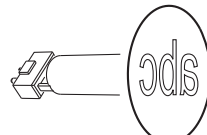
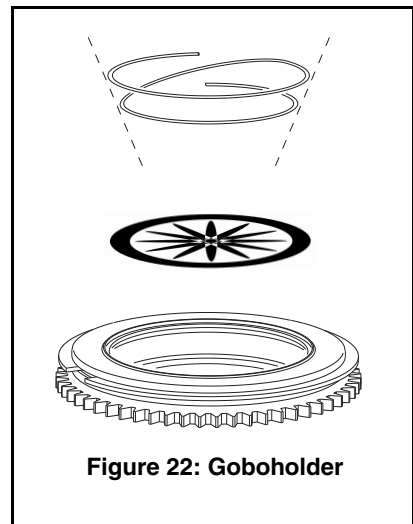

Figure 19. Correct gobo orientation
Figure 22: Goboholder
The orientations shown in Figure 19 are correct in most cases, but consult your Martin dealer or gobo supplier if you are in any doubt about the orientation of a specific gobo type.
Correct gobo orientation is critical. Read the guidelines in Figure 19 carefully before installing a gobo.
8. See Figure 22, With a small screwdriver or similar, unhook the end of the gobo spring furthest from the gobo and pull out the spring. Drop the gobo out of the holder onto a clean, soft surface.
9. Insert the new gobo in the holder with that must face towards the lamp – the more reflective side – facing upwards towards the spring (see Figure 22 and Figure 19).
11. Insert the spring with the narrow end against the gobo, as shown in Figure 22. To identify the narrow end, press the spring flat: the narrow end is on the inside. Push the wide end of the spring in under the lip of the holder.